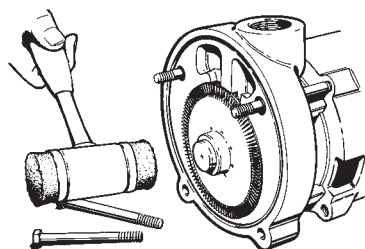

Figure 4-1
2. Remove the two (2) nuts (#20), and the two (2) 3/8" X 4" bolts (#19) from the cover (#2).
4. Remove the impeller (#11), refer to Figure 4-1. The impeller is a slip fit and, under normal conditions, can be removed by gently tapping on the end of the shaft sleeve with a mallet. Leave the impeller key (#23) in place. Strik-